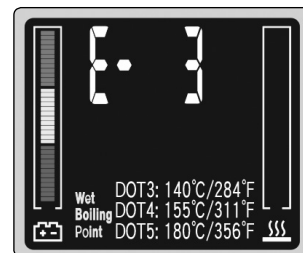

Fig.8
4.6.5.3. E-3: means either there is a problem with the heater or there is an internal fault. Contact your stockist for assistance, see fig.8.